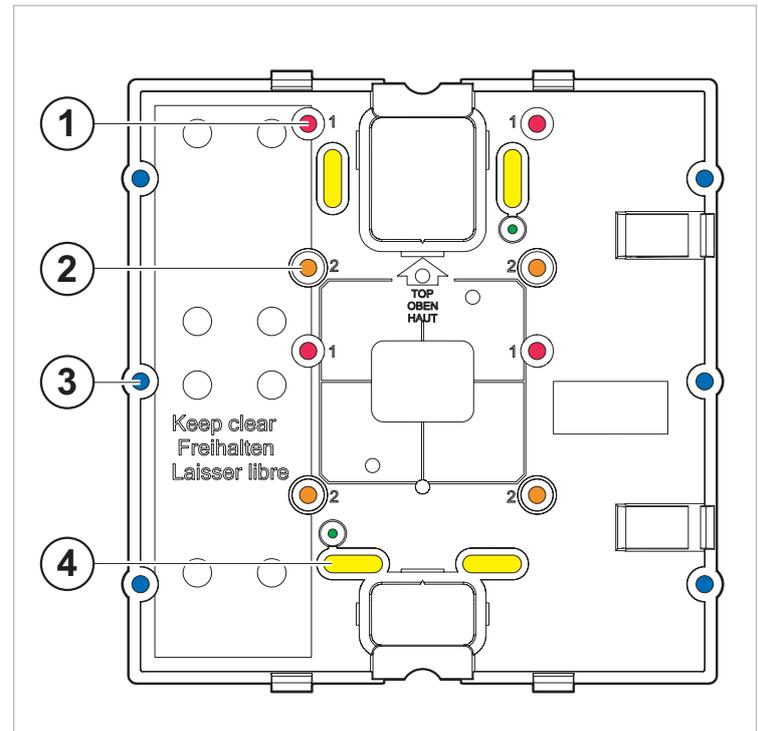

Fig. 5 Screw holes for the mounting plate
- Attach the universal mounting plate with at least 4 screws depending on the type of installation selected (see «Fig. 5 Screw holes for the mounting plate»).